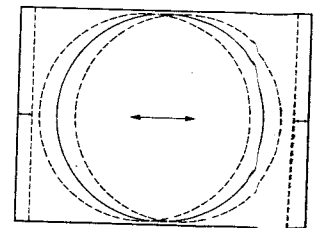

fig. 1
- Adjust the horizontal phase to obtain a position where no horizontal blanking appears on either side (fig. 1).